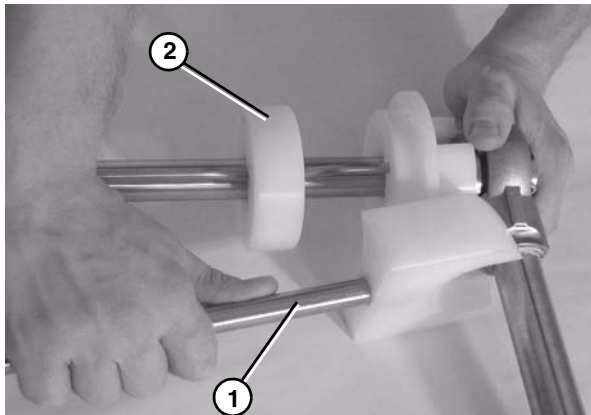

Figure 72
3. Attach the flanged pucks (**Figure 72, item 2**) and bearing shaft assemblies to the idler shaft.
4. Attach the guard bar (**Figure 72, item 1**).